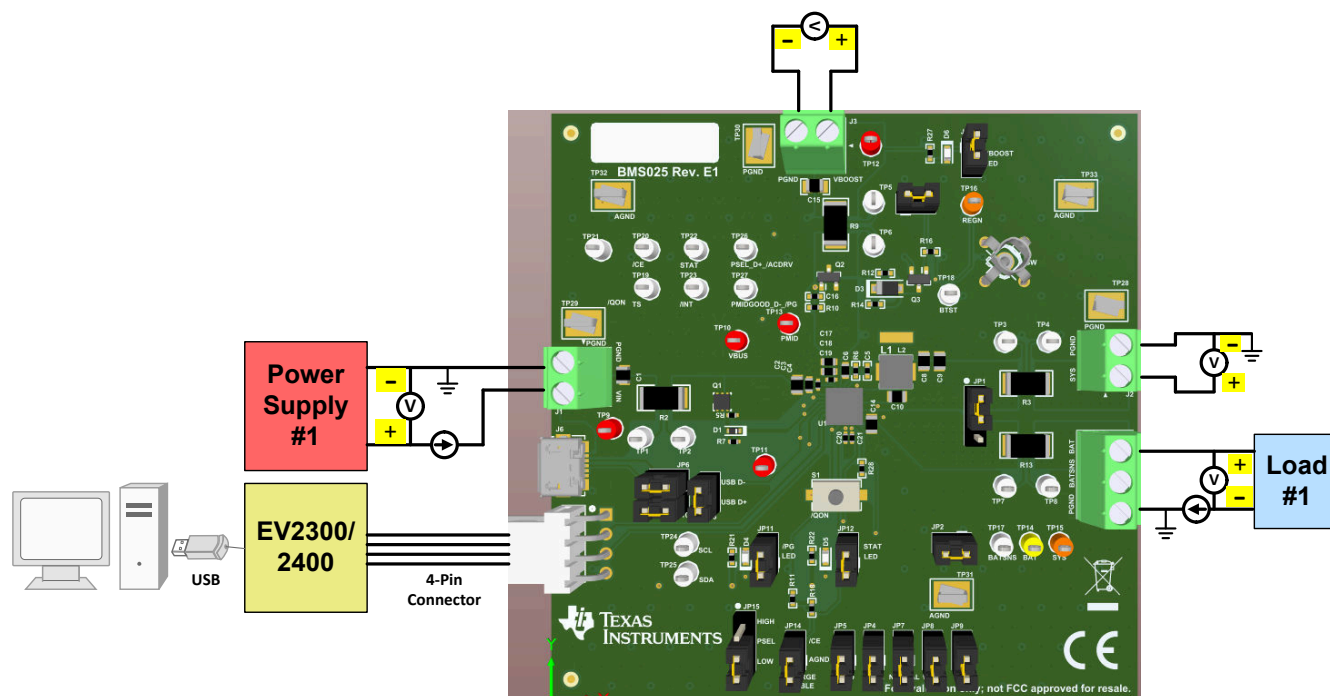

Figure 2-1. Original Test Setup for BMS025A
5. Turn on Load #1, set to constant voltage mode, and output to 2.5-V. Disable Load. Connect Load in series with a current meter (multimeter), ground side, to J4 (BAT and PGND) as shown in Figure 2-1.
6. Connect one voltage meter across TP16 (BAT) and TP30 (PGND), or across J4-3 and J4-1 as shown in Figure 2-1.
7. Connect one voltage meter across TP17 (SYS) and TP30 (PGND), or across J2-1 and J2-2 as shown in Figure 2-1.
8. Connect one voltage meter across TP14 (VPB) and TP32 (PGND), or across J3-1 and J3-2 as shown in Figure 2-1.
9. Connect the EV2300/2400 USB interface board to the computer with a USB cable and from I2C port to J5 with the 4-pin cable. The connections are shown in Figure 2-1.